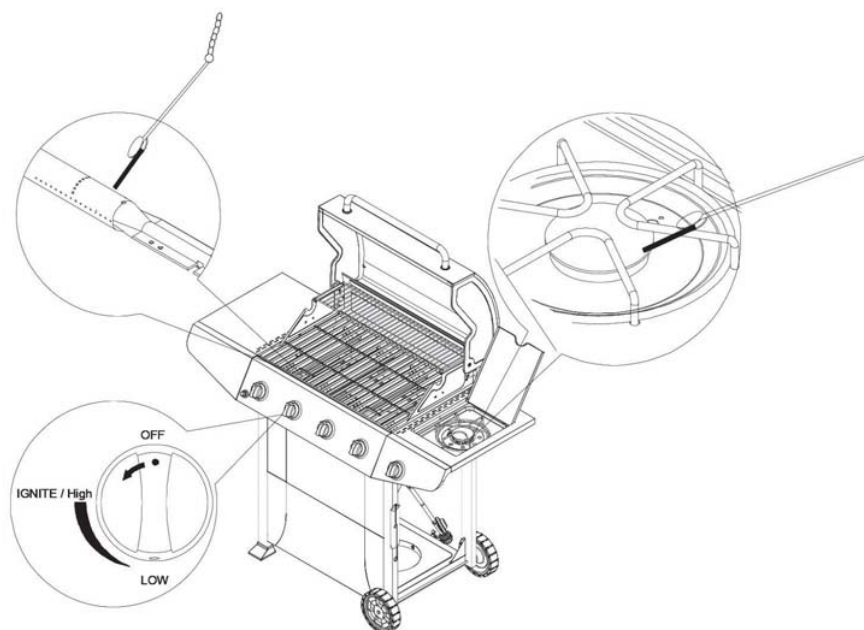

Fig. 26 Match/Paper Lighting Illustration
4. Attach either the match or paper to the clip (Fig. 26), light the match and insert it close to the ports of the burner, and push and turn the depressed knob to the left to "HIGH" position.